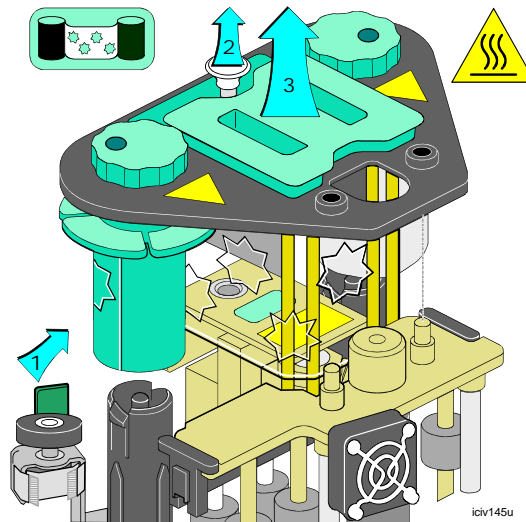

Figure 4-11: Remove the topcoat cartridge
- 2 Move the supply tracker away from the supply roll until it stops (step 1 in Figure 4-11).
- 3 Pull up on the cartridge lock to release the topcoat cartridge (step 2 in Figure 4-11).
- 4 Lift the cartridge straight up until the cartridge is above the edge of the printer (step 3 in Figure 4-11). Remove the cartridge from the printer.